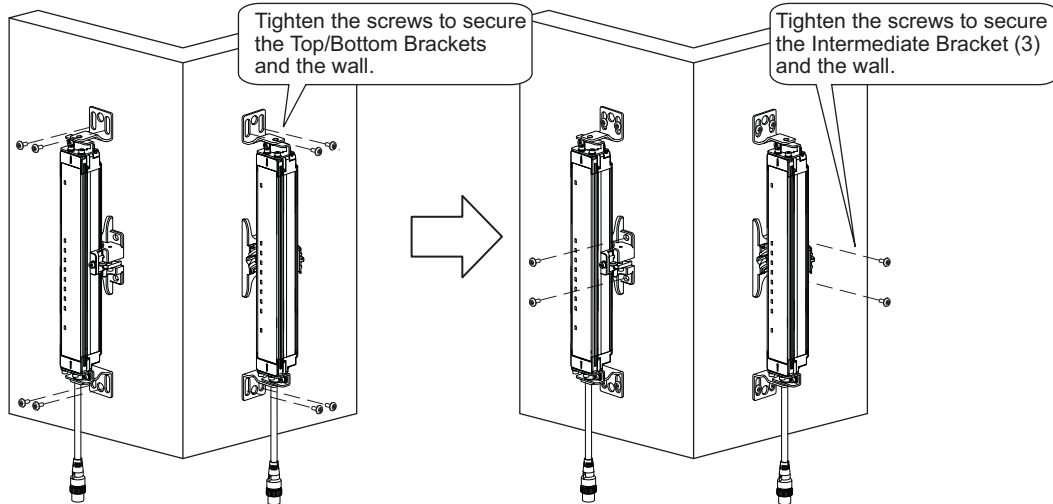

Figure 11
5. Tighten the screws to mount to the wall by the order of Top/Bottom and Intermediate Brackets. (Figure 11)